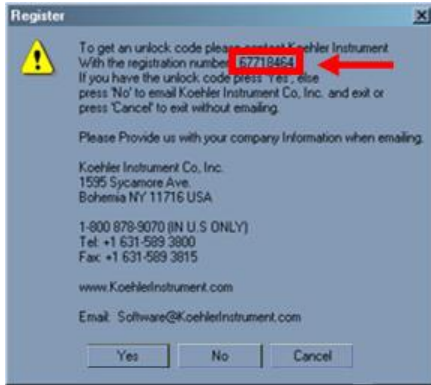

Figure 1: Registration Screen
2. Registration. Start the program and then go to >> Help >> Register. A registration screen will appear with a registration number (Refer to Figure 1, below). E-mail Koehler at software@koehlerinstrument.com or call with the registration number for the unlock code. Once the software has been registered, it must be restarted before tests are run.